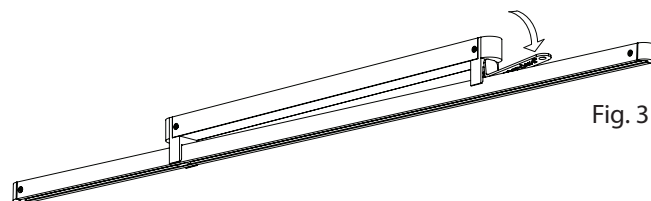

Fig. 3
2. Press down firmly on the edge of the Tool to separate one side of the Light Bar from the Power Bar. (Fig. 3)